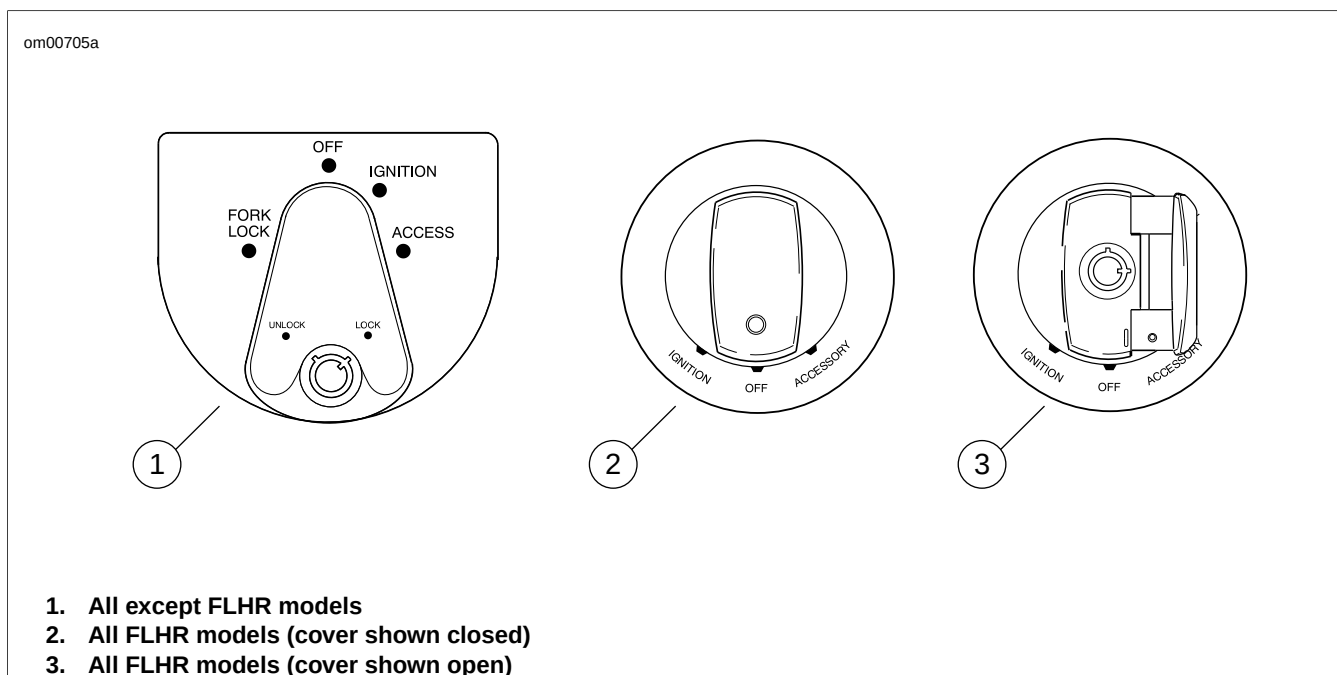

Figure E-7. Ignition Switch: Touring Models
- See Figure E-7. "Key ON" means that the Ignition Switch is turned to IGNITION and the Engine Stop Switch is set to RUN (although the engine is not running).